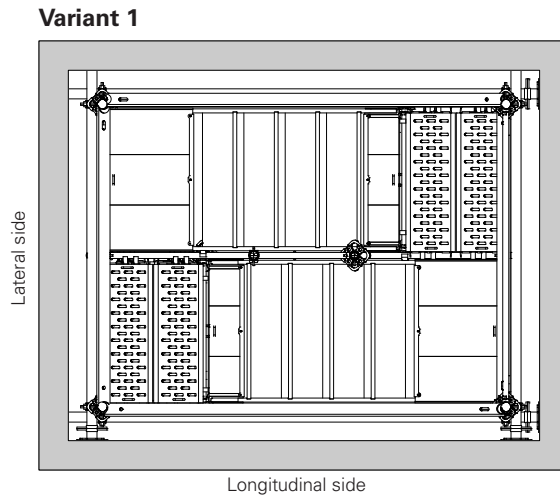

Fig. B8.11
3. Spindle the base spindle up against the other wall. (Fig. B8.11)